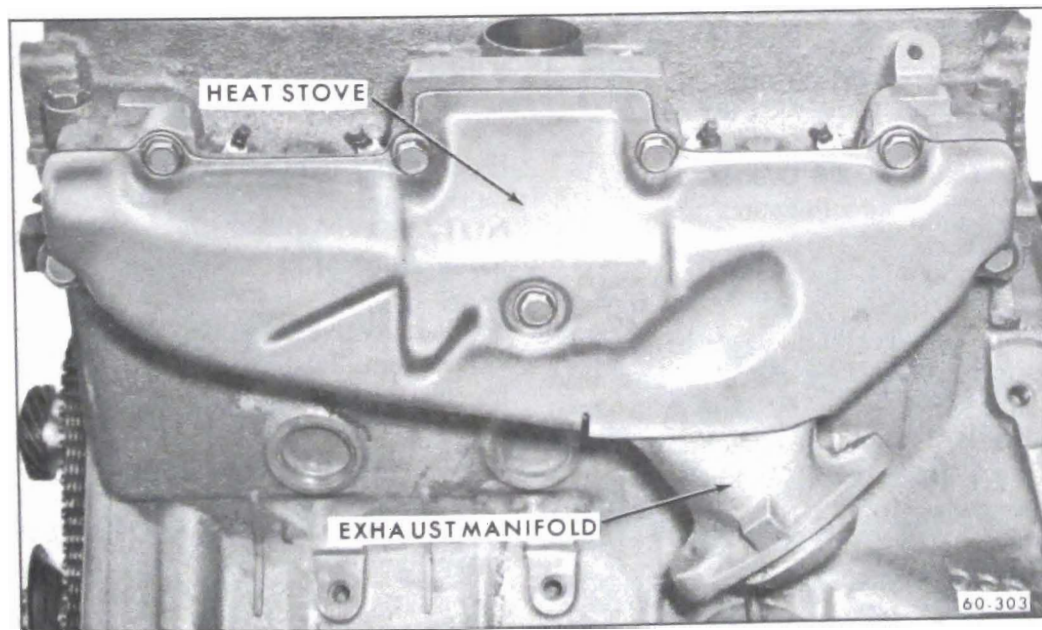

Figure 60-212 Exhaust Manifold Installation (350 Left Side Shown)
6. Assemble exhaust manifolds to heads. See Figure 60-212. Torque bolts to 18 lb. ft.